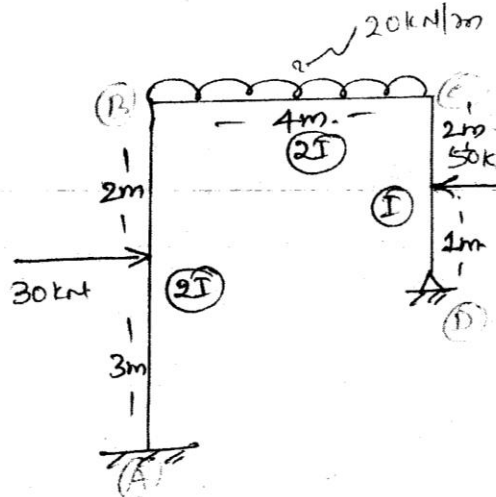

Figure-5.
10. Analyse the frame as shown in figure-5 and sketch the bending moment diagram.